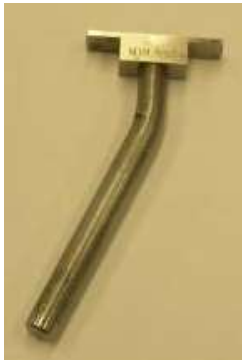

Figure 66
- (a) Install one end of the counterweight Circlip Check Gage, P/N 64892-2 (Figure 66) between the ends of the circlip (Figure 68).